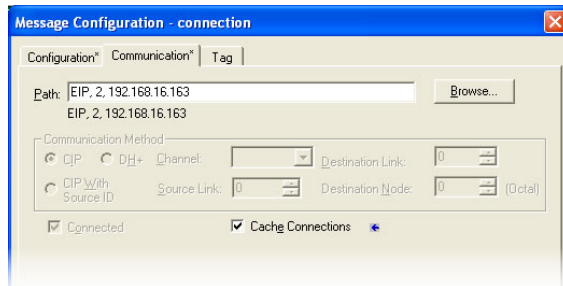

Figure 104: Setting the Communication Path
d) “Communication” tab settings (refer to Figure 104):